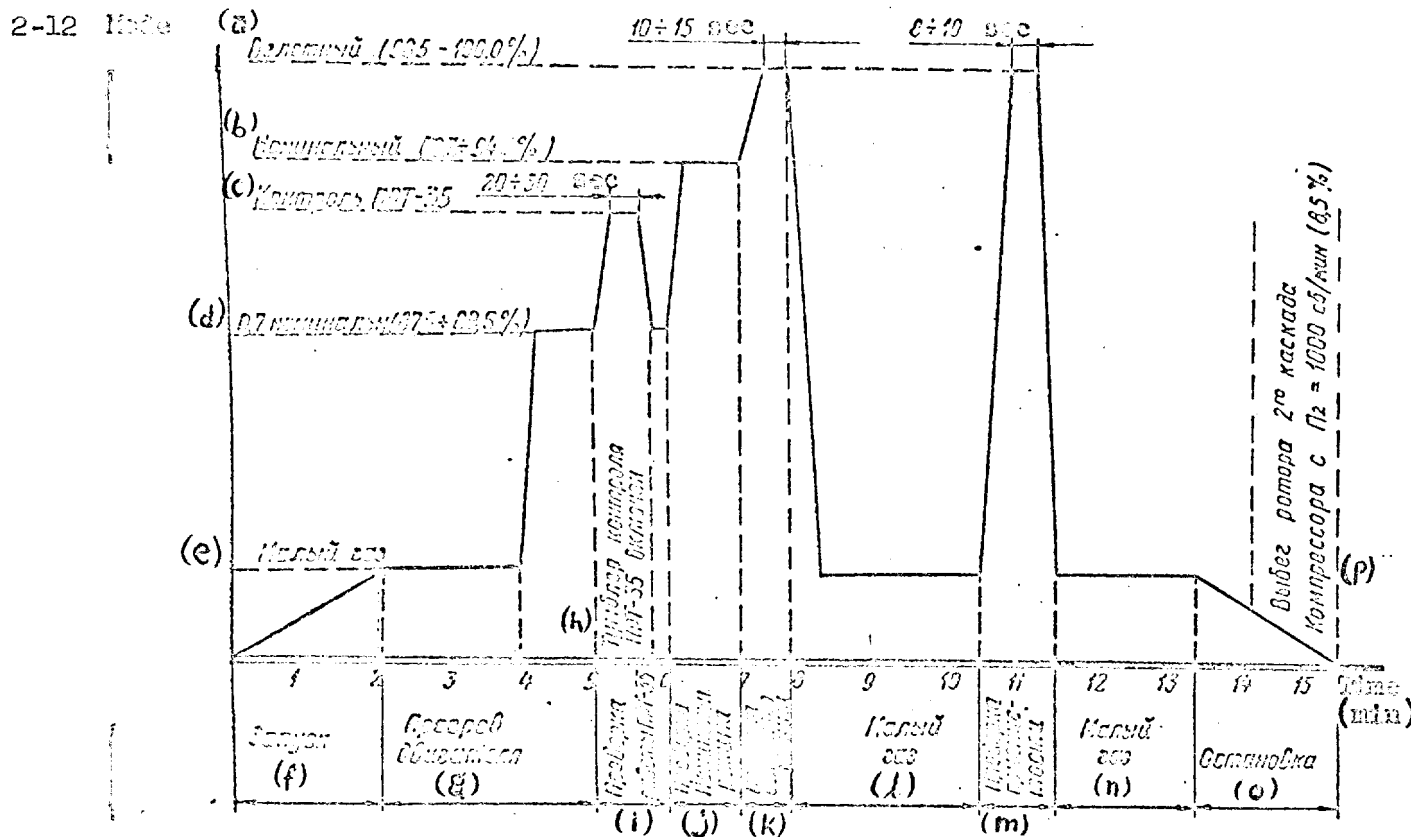

Figure 2.2. Engine Warm-Up And Test Chart
-- as the engine speed builds up the fuel pressure in front of the injector increases smoothly (the first section of the injector is operating), and when the pressure reaches 12 kg/cm2 the second section of the injector begins operating; during this time the fuel pressure drops and then builds up as engine rpm increases. The engine should automatically switch to the idling mode within a time period not exceeding 120 seconds according to the graph shown in Figure 2.2.
5. [sic] The operation of the engines should be checked in accordance with the engine warm-up and test chart shown in Figure 2.2.